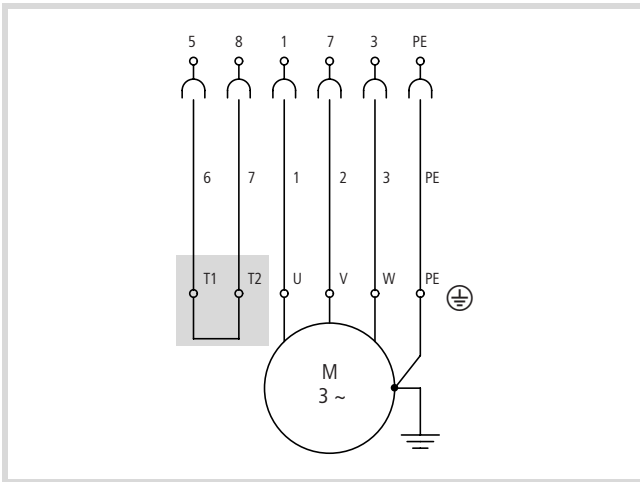
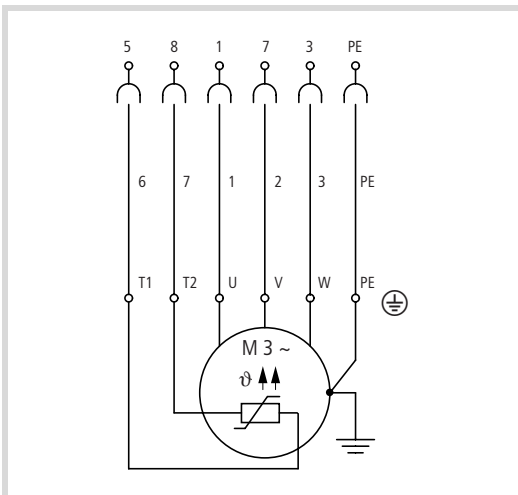

Figure 76: Motor connection without thermistor
Figure 77: Motor connection with thermistor
- the thermistor is correctly connected or whether wires 6 and 7 are bridged in the motor terminal board (→ fig. 76 and fig. 77, page 73)